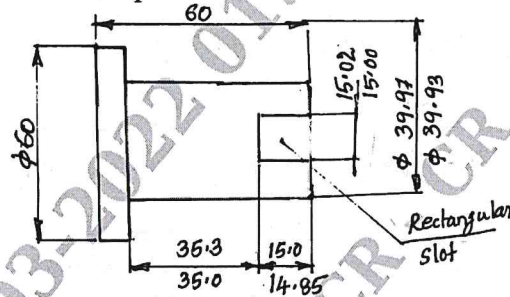

Fig.Q6(b)
- b. For the part shown in Fig.Q6(b) re-dimension the part to suit for manufacturing. Explain the machining sequence to produce the part.